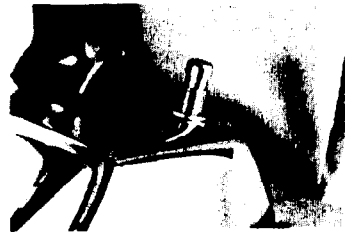

Fig. 2
**STEP ON PUSH SWITCHES** are mounted on the motor hood. A push with the foot turns the motor **ON**; push again to turn the motor **OFF**. (Fig 2)